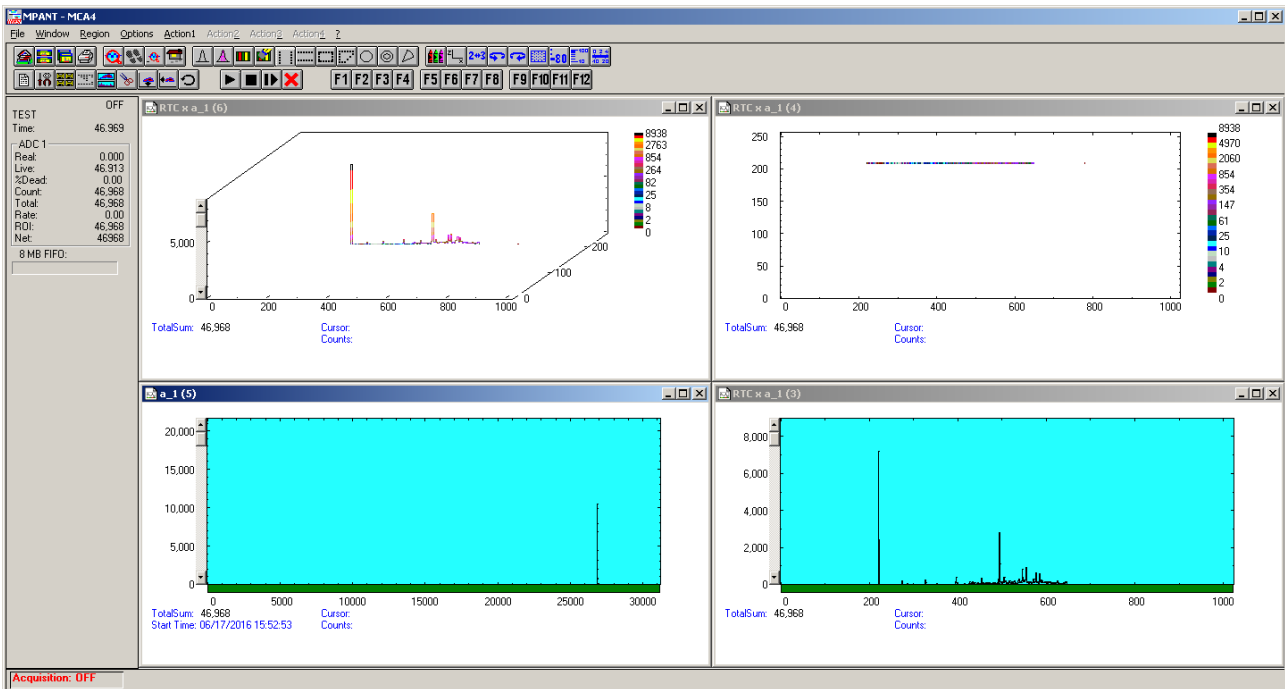

Fig. 2.33: Basic Time Spectra
In Fig. 2.33 the resulting spectra can be seen. Watching the map display (window (4)) amplitude variations show up as vertical lines whereas delay time variations result in horizontal lines. Window (6) is the corresponding three-dimensional view, window (5) the pulse height analysis and (3) the time spectrum. The acquisition will not start before a trigger signal is sent to the TRG connector at the rear panel. The Real timer is reset by each new signal there, so the real time cannot longer be used for normalizing. The system time, computer run time and live time may be used instead of it. The trigger signal should be a short pulse. For high polarity, the RTC is stopped and hold at zero as long as the signal level is high, and the acquisition is inhibited. After the pulse the acquisition is running for the time the signal level remains low.